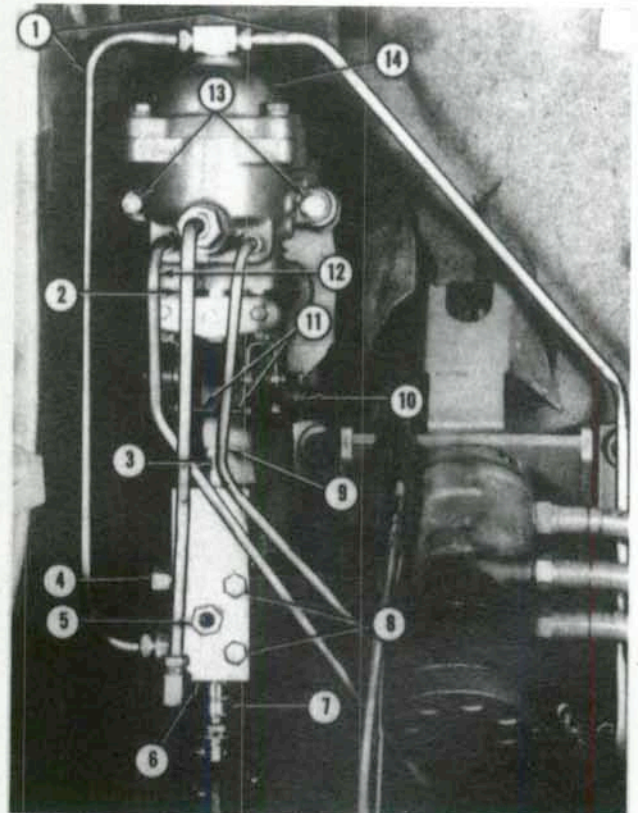

Fig. 248—View of power brake valve and differential lock valve on Model TW-35.
Power to actuate brakes on TW-35 tractors is provided by the low pressure oil pump. Pressurized oil is routed to power brake valve shown in Fig. 248, then to individual rear brakes as required.
**179. R&R AND OVERHAUL POWER BRAKE VALVE.** To remove power brake valve, disconnect oil tubes (1, 2, 9 and 12—Fig. 248) from brake valve (14). Remove valve mounting bolts (13) and rocker arm retaining pin (10), then remove valve assembly.